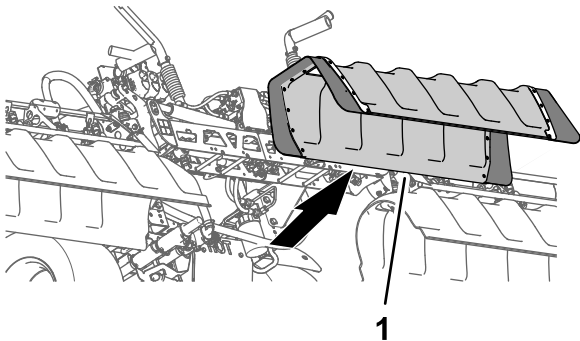

Figure 26
2. Remove the center-section cover from the machine (Figure 26).